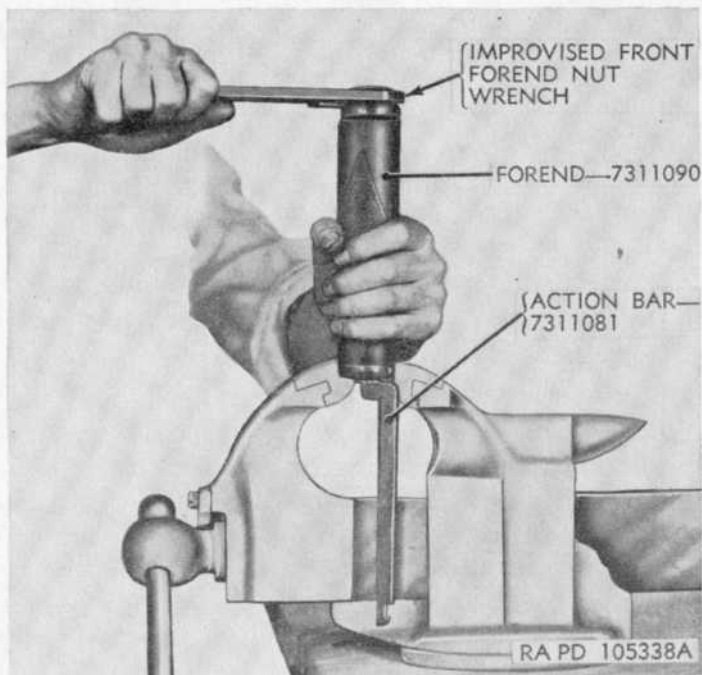

Figure 38. Removing or installing front forend nut from action bar tube.
- (3) Slide the forend, with external slot for barrel in line with that of the assembled forend nut and with internal slot for action bar facing action bar, over the tube and action bar and into cutout in rear forend nut.
- (4) Screw front forend nut on action bar tube, using improvised front forend nut wrench (fig. 38). When the front nut is tightened, the barrel slots on the rear and front forend nuts and on the forend should be alined.
- (5) Insert magazine nut into engaging slots on lower portion of breech end of barrel.
- (6) Insert magazine follower into magazine nut with the open end of follower facing the muzzle.
- (7) Screw magazine into magazine nut and slide assembled action bar and forend on magazine.
- (8) With the forward end of the magazine disengaged from barrel, slide the magazine spring in magazine.
- (9) Compress magazine spring with plug until plug with projection on top can be inserted in forward end of magazine.
- (10) Move forward end of magazine until magazine plug projection rests against barrel lug and fasten magazine to barrel with magazine plug screw.
- (11) Slide action bar group forward as far as it will move and install barrel, magazine and action bar group on remainder of shotgun as described in paragraph 51*d*.